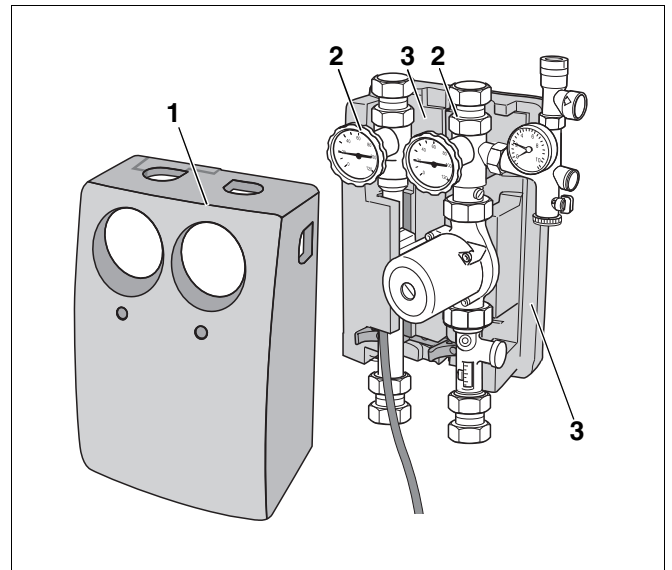

Fig. 19 Installing thermal insulation at the front
- ▶ Position the front thermal insulation (Fig. 19, **Item 1**) on the pump legs (Fig. 19, **Item 2**).
- ▶ Press the front thermal insulation (Fig. 19, **Item 1**) against the rear thermal insulation shell (Fig. 19, **Item 3**).